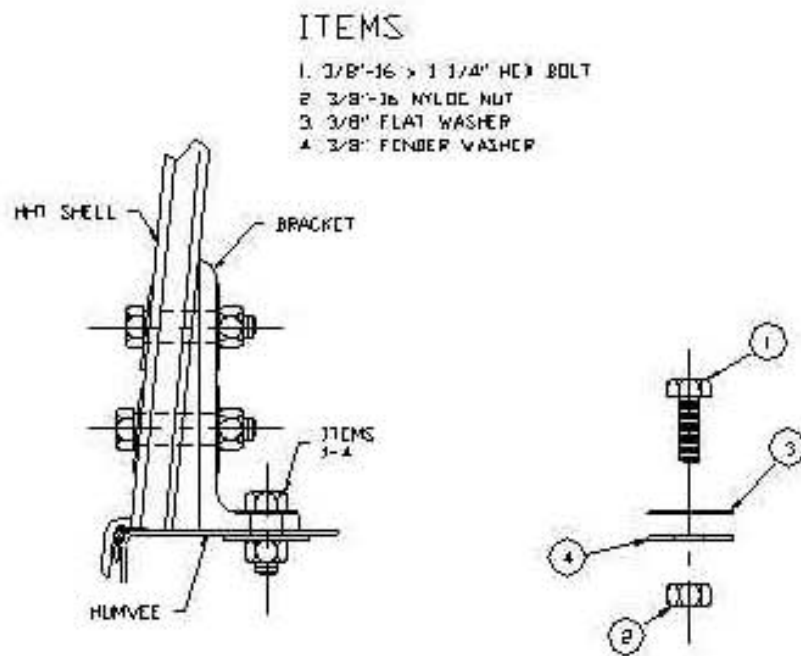

FIG 1-5
12. Tap the mid L-brackets down until they contact the wheel well. With a " drill bit, drill through the mounting holes on each bracket. Fasten the mid L-brackets to the vehicle with (2 ea.) "-16 x 1-½ hex bolts, (2 ea.) "-16 nyloc nuts, (2 ea.) " flat and (2 ea.) " fender washers. Tighten the four bolts which secure the mid L-brackets to the top. See figure 1-5.